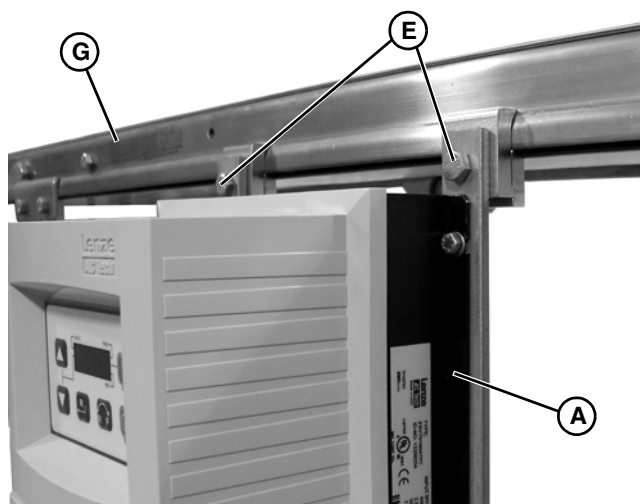

Figure 5
- Attach controller (Figure 5, item A) to conveyor (Figure 5, item G) with screws (Figure 5, item E).
3. Attach controller (**Figure 5, item A**) to conveyor (**Figure 5, item G**) with screws (**Figure 5, item E**).